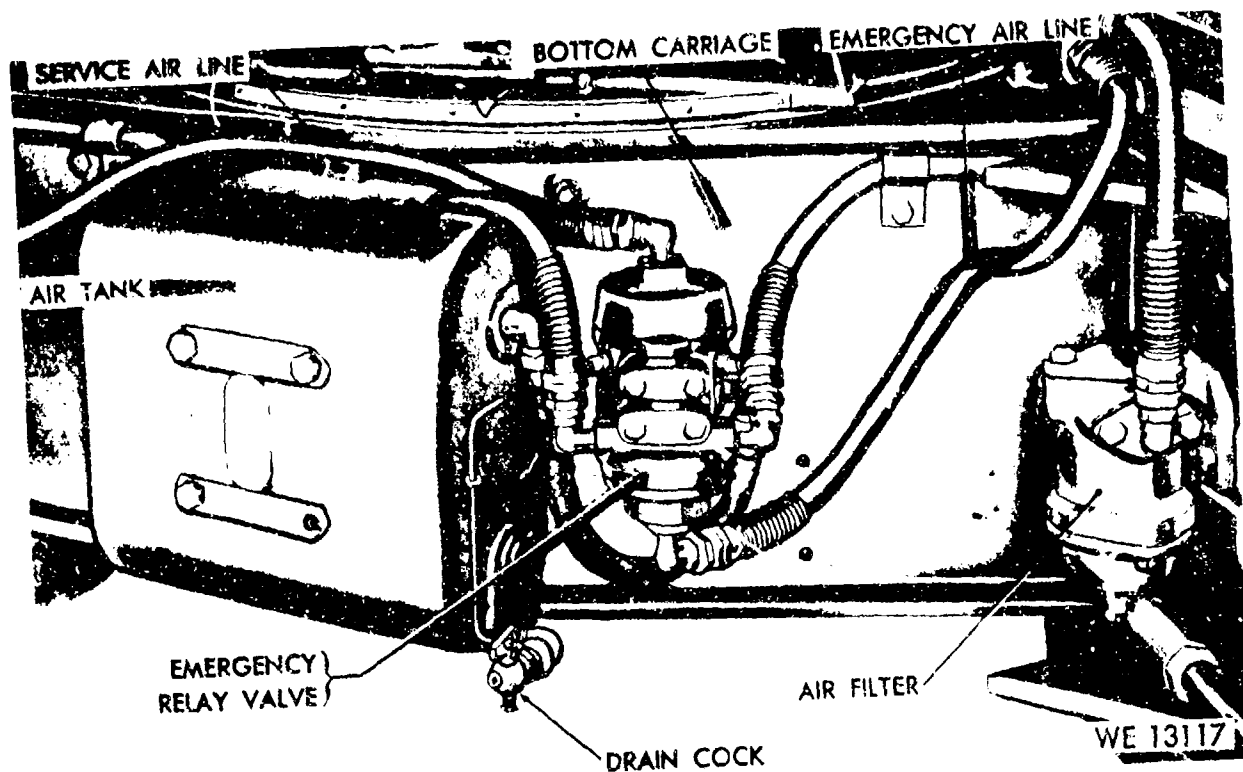

Figure 5-3. Air brake components.
b. *Principal parts.* The principal parts of the air brake system are two air lines (service and emergency), two air filters, an emergency relay valve, an air tank, two air brake diaphragms, two slack adjusters, two handbrake levers, and two brake actuating mechanisms (fig 5-3).
prime mover to the top of the emergency relay valve (fig 5-3) and controls all service brake applications. The emergency air line leads from the prime mover to the lower part of the emergency relay valve. Its purpose is to keep the air tank charged at all times. The tank, in turn, supplies the compressed air which actually makes all brake applications. Dummy couplings on the outer sides and near the rear ends of the trails are provided to retain the air brake hose couplings and to exclude dirt when the couplings are not connected to the prime mover.
*e. Emergency relay valve.* The emergency relay valve (fig 5-3) is mounted on the rear of the bottom carriage and is protected by a guard. The valve is a combined relay valve (which speeds up the brake action from the prime mover to the carriage) and emergency valve (which controls automatic brake application in the event the carriage breaks loose from the prime mover).
*f. Air tank.* The air tank (fig 5-3) is mounted on the rear of the bottom carriage and is equipped with a drain cock for draining moisture and for relieving pressure prior to firing or when the